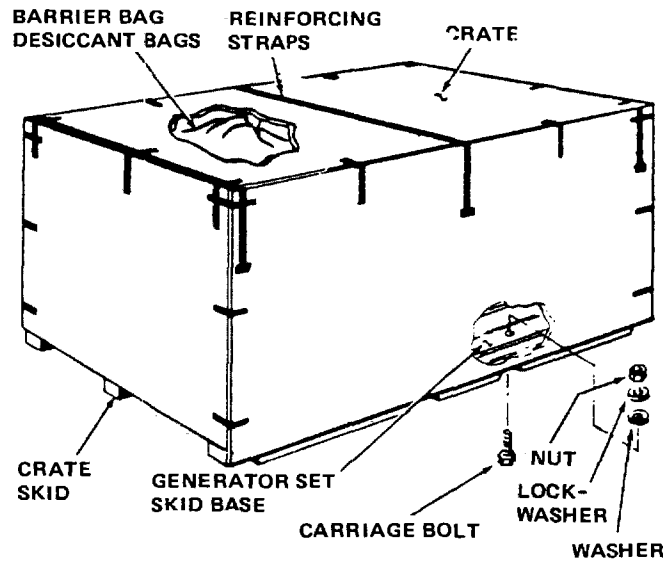

Figure 4-1 Shipping Crate
b. Remove the top, the sides, and finally the ends of the packing crate (see figure 4-1).